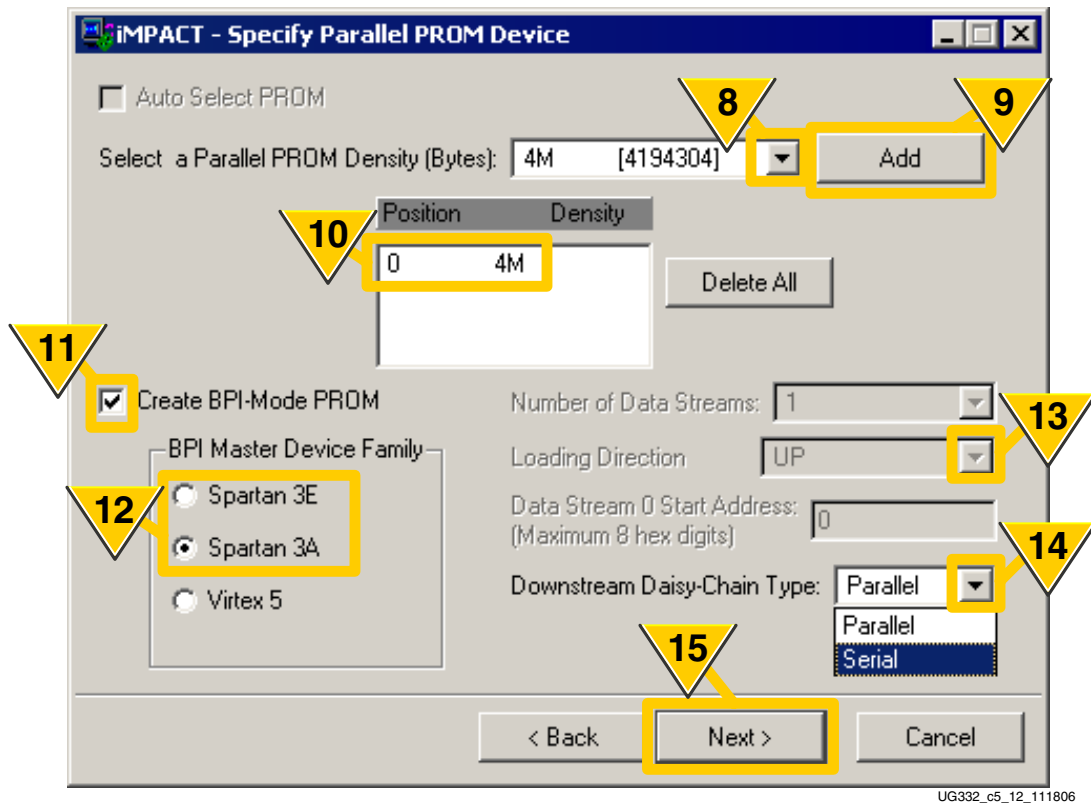

Figure 5-10: Select Parallel PROM Size and Configuration Style
The **CCLK** output from the master device operates at 8 times the frequency of the Flash interface and CCLK synchronizes all FPGAs in the daisy chain. The master FPGA accesses the Flash every 8 CCLK cycles but provides serial data on its **DOUT** output to downstream FPGAs every CCLK cycle. The iMPACT programming software automatically adjusts the CCLK frequency when serial daisy chains are selected in Step 14, Figure 5-10, page 151.
8. As shown in Figure 5-10, select the Parallel PROM Density, measured in bytes. This example uses a 32 Mbit Flash PROM, equivalent to 4 Mbytes.